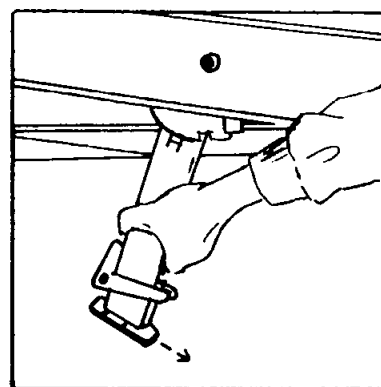

FIGURE 5
13. There are four stabilizer jacks on this trailer. One jack is located in each corner of the trailer. To release the jacks from the locked travel position, reach under the corner and firmly grasp the stabilizer jack, push it toward the center of the trailer (approximately 1/2"), and pull down until the stabilizer jack locks into place in the lowered position. See Figure 5.